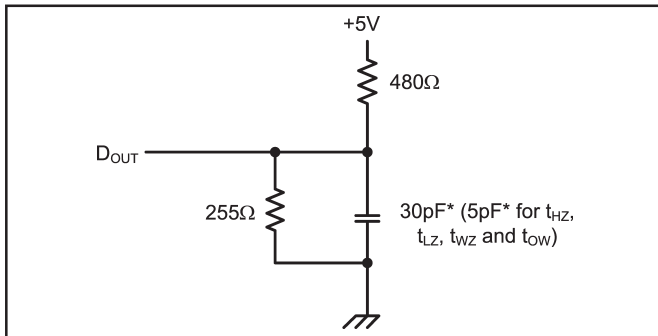

Figure 1. Output Load
- Transition is measured $\pm 200mV$ from steady state voltage prior to change with specified loading in Figure 1. This parameter is sampled and not 100% tested.
Output Load	See Figures 1 and 2